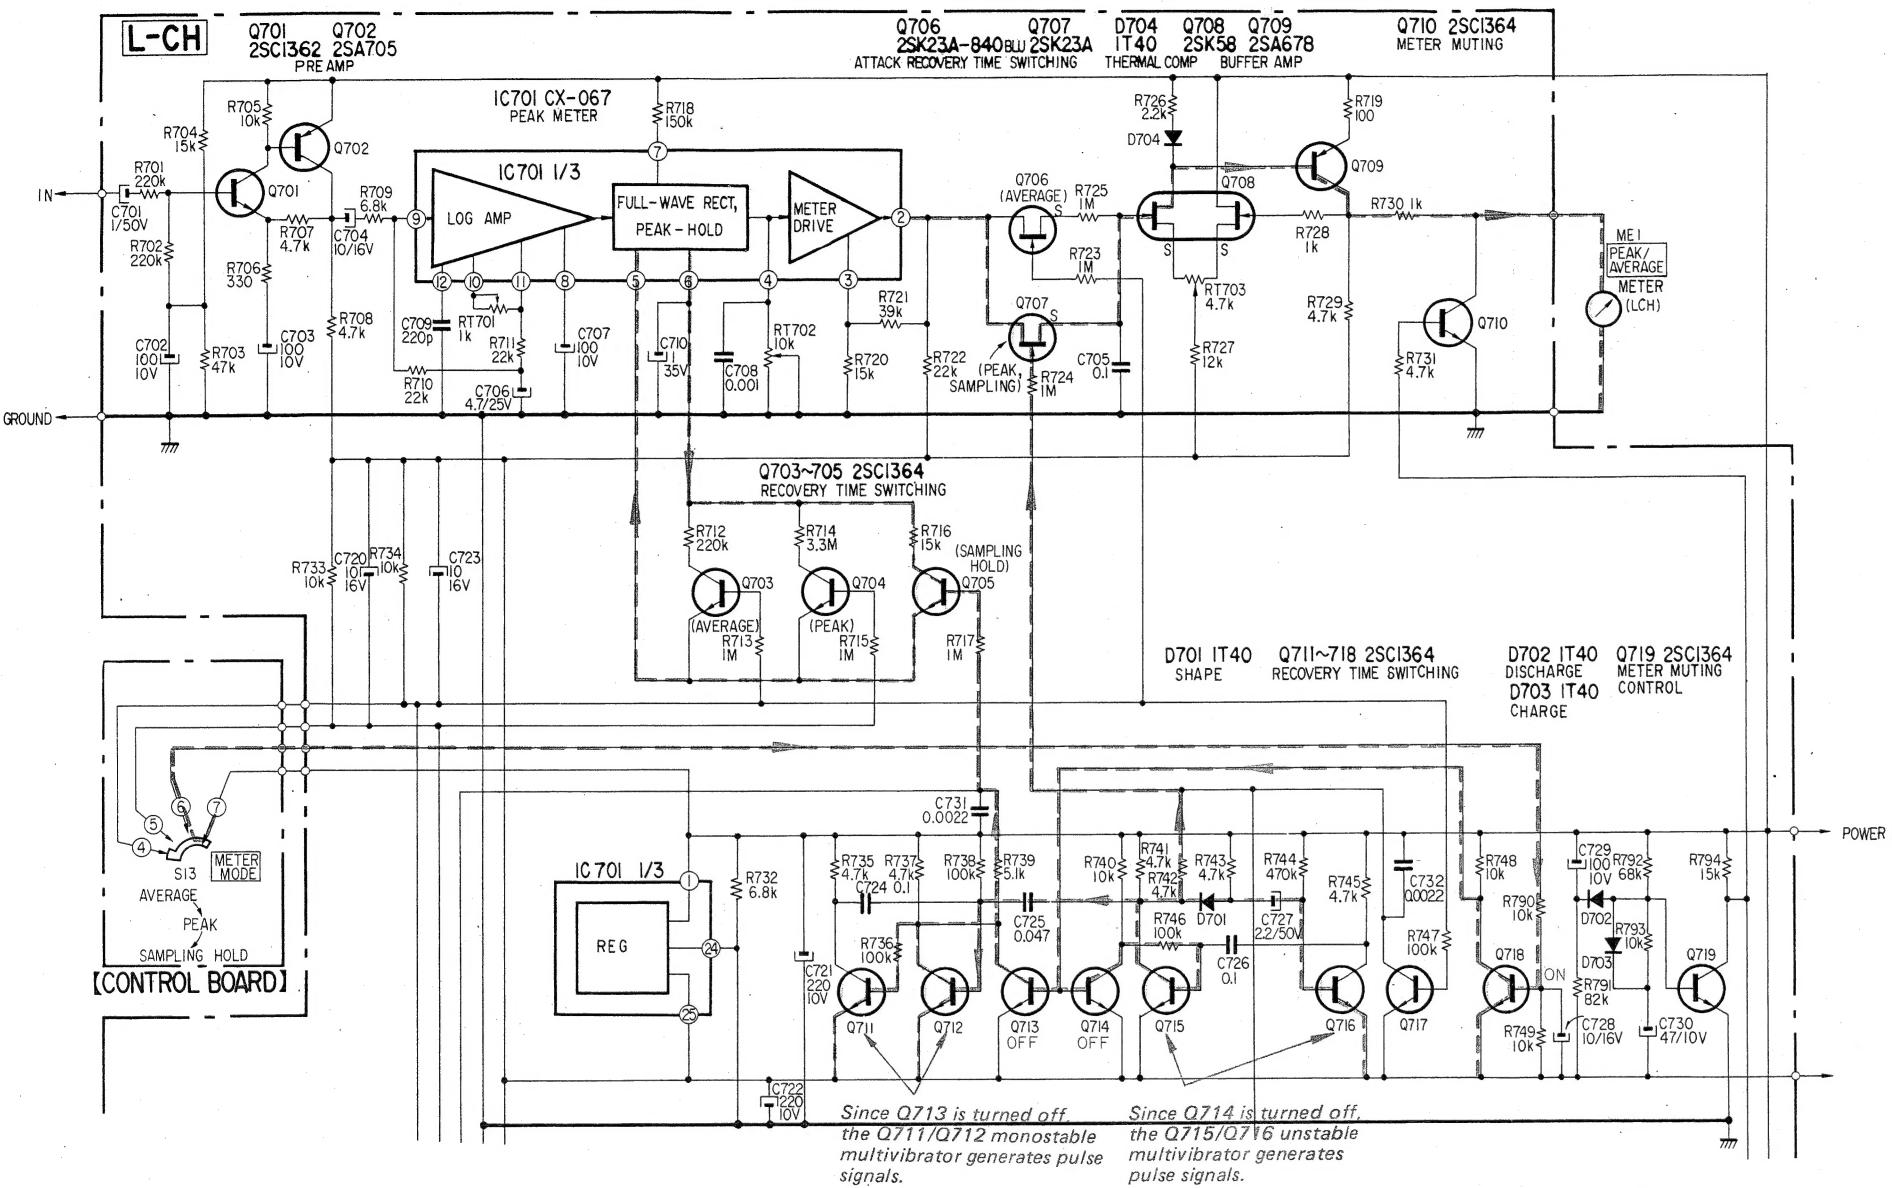

Fig. 5
- \* During sampling hold mode, Q705 turns on every 0.5 seconds, and C710 discharges immediately through R716 ( $15\text{ k}\Omega$ ) (see Fig. 5).
- \* During sampling hold mode, Q707 is turned on (Fig. 5) resulting in the same rapid charge-up time as during peak mode.
## 3. Circuit Operation and Meter Display During Sampling Hold Mode (See Figs. 5 &amp; 6)
## 4. Meter Drive Circuit (Fig. 5)
## 5. Meter Muting Circuit (Fig. 5)